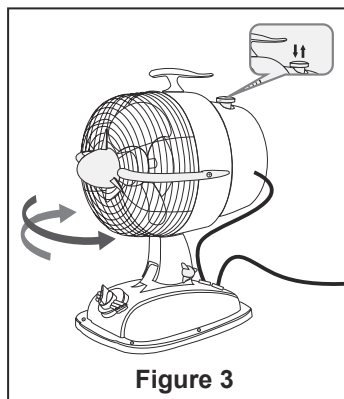

Figure 3
- ☐ 3. Pull up on the oscillating knob for non-oscillating operation. Push down on the oscillating knob for oscillating operation. (Figure 3)